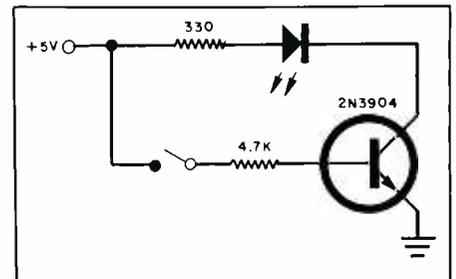

Fig. 6. A circuit for testing operation of project's transistors out-of-circuit.
You can also check each of the Q1 through Q6 transistors out-of-circuit. To do this, breadboard the circuit shown in Fig. 6. The transistor shown here is the one that will be installed in the project. This test circuit is designed to prevent exceeding the maximum allowable base current for the transistors.
value of circuit resistance is called the "critical resistance," abbreviated R_c . This critical resistance is equal to $2\sqrt{L/C}$. Under this operating condition, the overshoot is a single surge without subsequent ringing, as illustrated in Fig. 6(A). By way of comparison, the Q value under this condition is 1.
Fig. 6(B). That is, the initial single surge is followed by one recognizable half-cycle of ringing. Under this condition, the rise time of the waveform is also improved to some extent.
If the Q value is much greater than 1, the initial overshoot is followed by prolonged ringing, as demonstrated in Fig. 6(C). A practical example of this condition is seen in a defective TV sweep system described as "ringing all the way through the picture."
Fig. 6. Square-wave overshoot and ringing modes: (A) critical damping where Q is 1 and overshoot is a single surge; (B) where Q is slightly greater than 1 and overshoot is followed by a half-cycle of ringing; (C) where Q is comparatively high and overshoot is followed by a substantial ringing sequence.